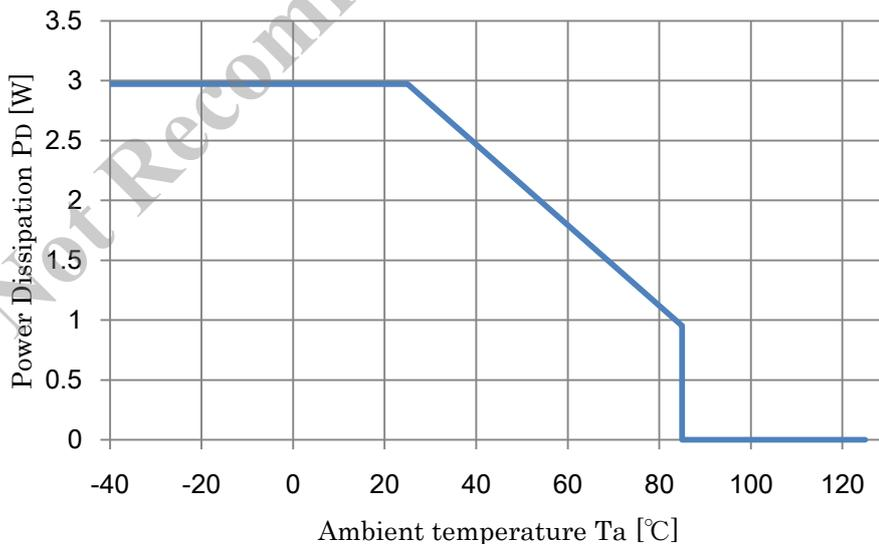

Fig. 4-1 Allowable package power dissipation of NR421A
(5) To be used within the allowable package power dissipation characteristics (Fig4-1).
- 1) Because the Fig4-1 is defined in "PD=2.97[W]" at "Tj=125 [°C]", please keep enough margin when you use.
- 3) Losses can be calculated by the following equation. In addition, efficiency η_x will vary depending on the conditions of the input voltage, output current. By measuring the η_x in the actual operation, assigns a numerical value to the equation (1), as a η_x remain of percent display.